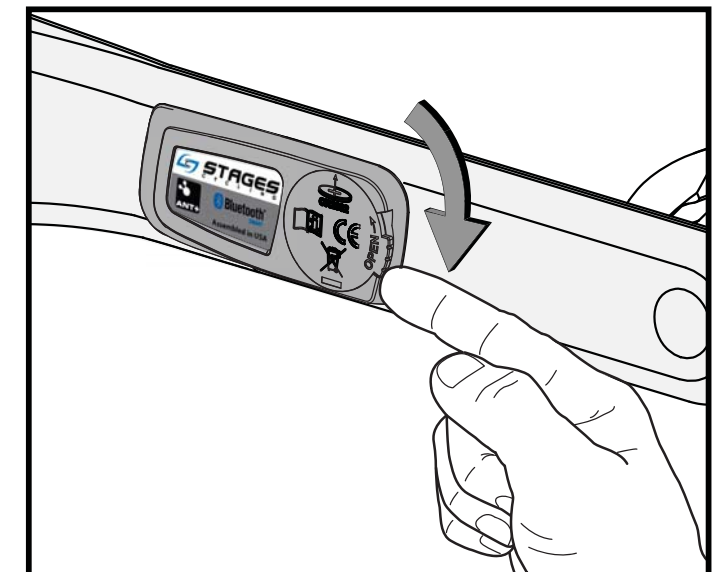

FIG 6
6. Once the battery cover has been properly inserted and even with the surface of the power meter, use your finger to firmly rotate the cover back to the locked position as illustrated in **FIG 6**.